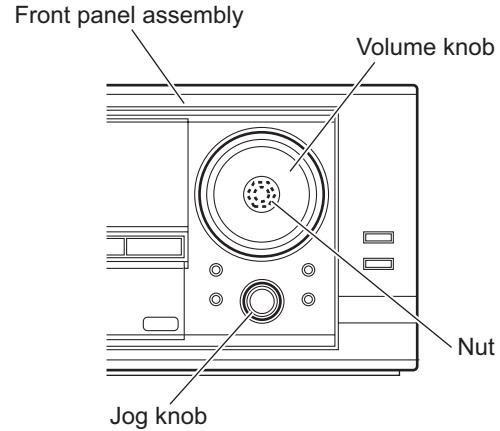

Fig.19
3.18 Removing the front key & system control board, front video board (See Figs.19 to 22)
- (1) From the front side of the front panel assembly, pull out the volume and jog knobs, and remove the nut attaching the front key & system control board. (See Fig.19)